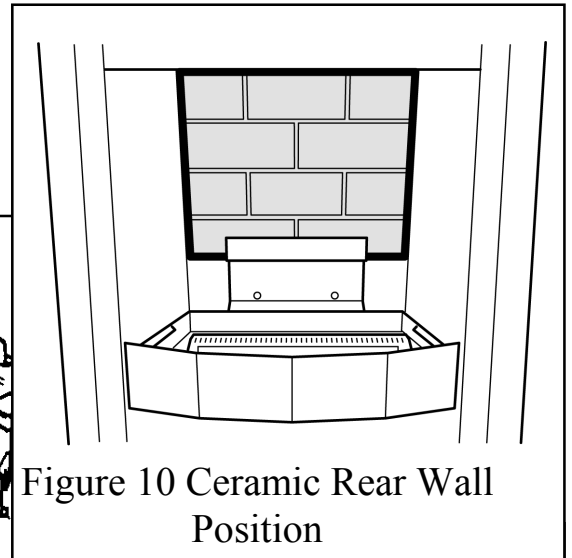

Figure 10 Ceramic Rear Wall Position
1. Fit the ceramic rear wall into the bracket at the back of the firebox. See figure 10.